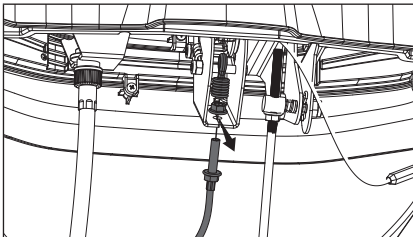

Figure 85
8. Remove the cable from the bracket. (Fig. 85)